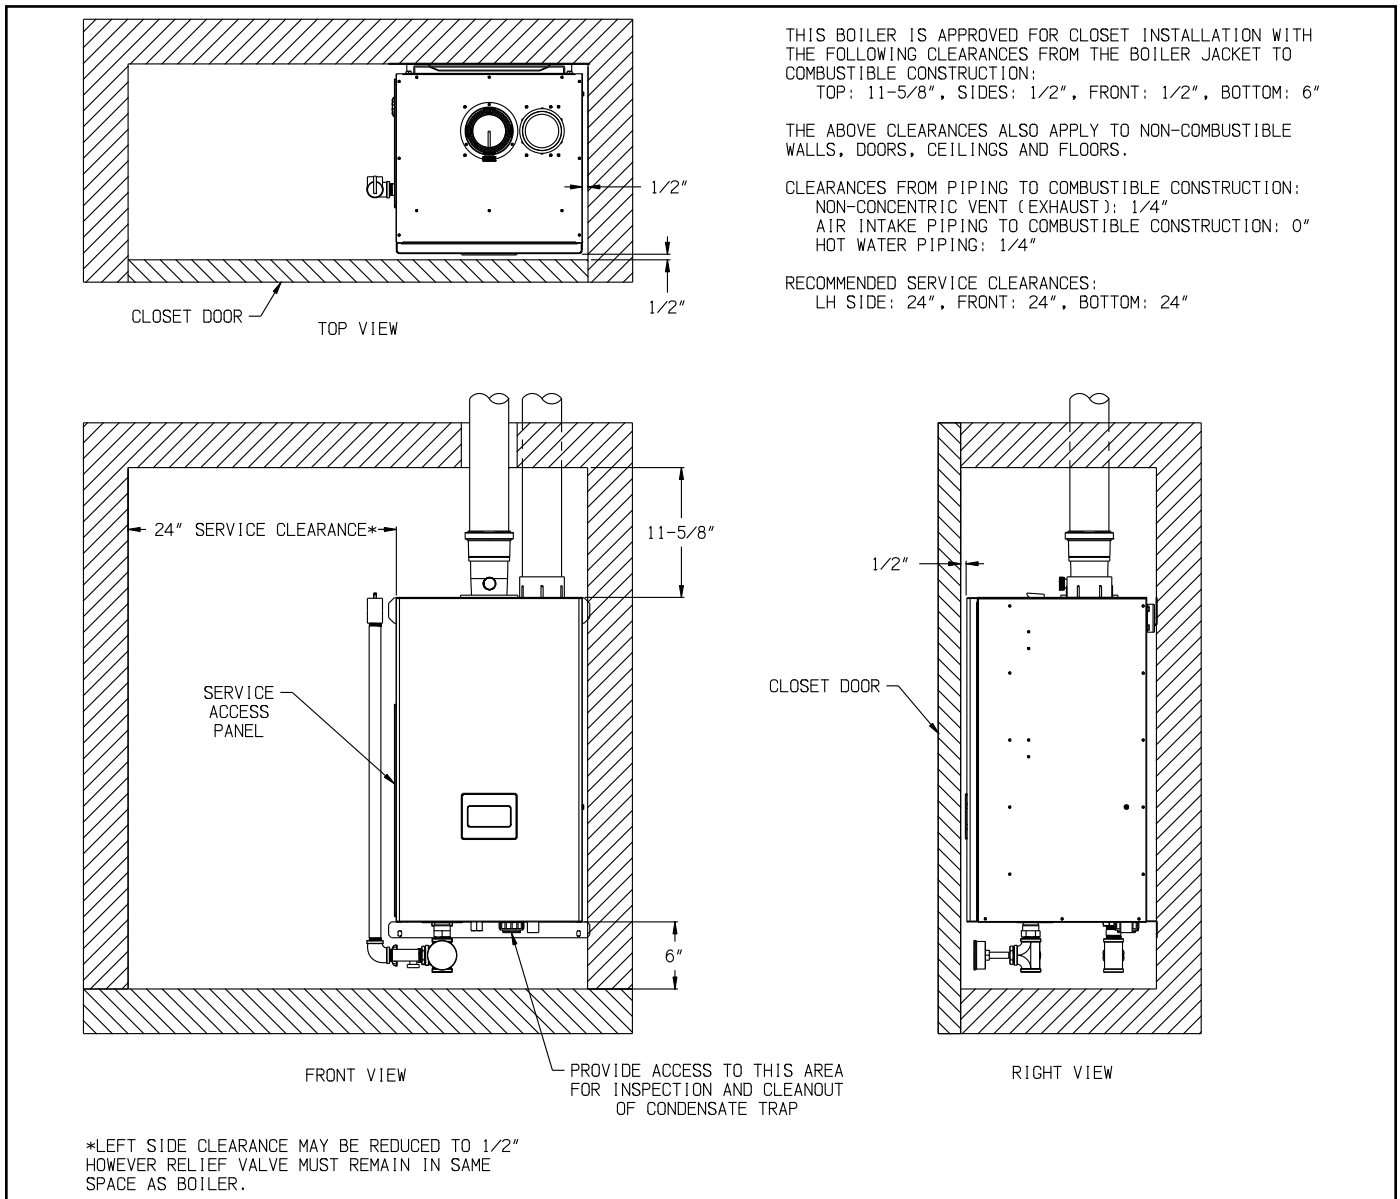

Figure 4.1: Minimum Clearances To Combustible Construction
- 1) Observe the minimum clearances shown in Figure 4.1. These clearances apply to combustible construction as well as non-combustible walls, floors, ceilings and doors.
- 2) Note the recommended service clearances in Figure 4.1. These service clearances are recommended, but may be reduced to the combustible clearances provided: